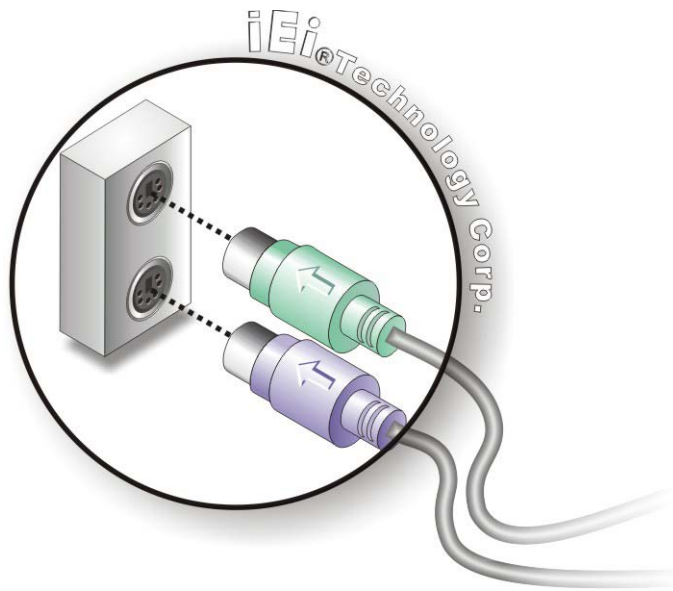

Figure 4-12: PS/2 Keyboard/Mouse Connector
Step 2: Insert the keyboard/mouse connector. Insert a PS/2 keyboard or mouse connector into the appropriate PS/2 connector on the external peripheral interface connector. See **Figure 4-12**.